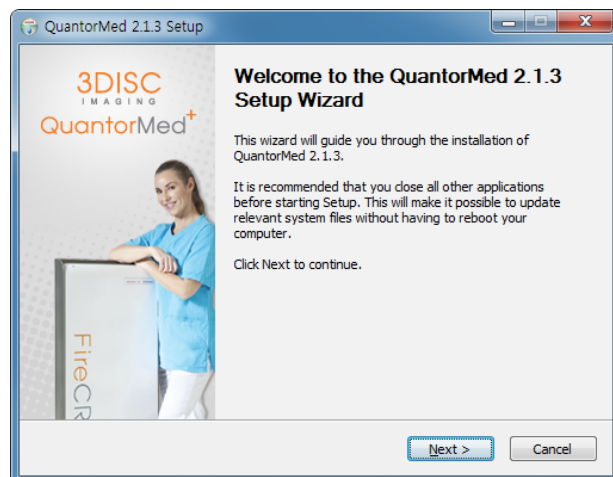

Figure 2.1 Welcome Dialog Box
- Click the “Next” button as shown in Figure 2.1.